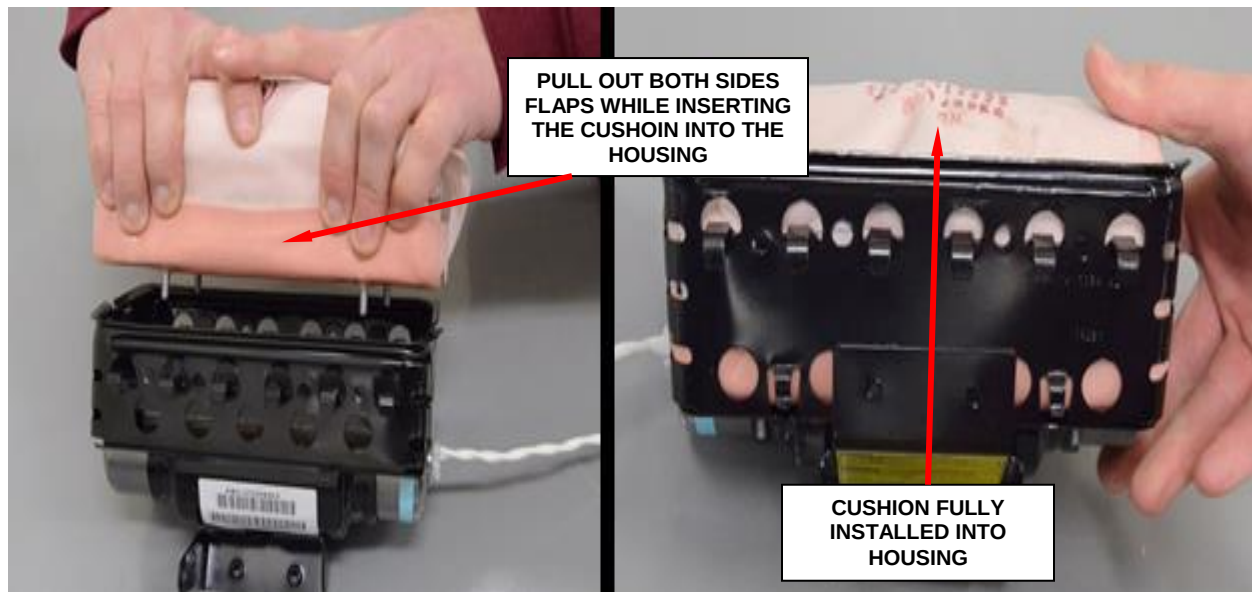

Figure 127 - Side Flaps Must Be Held Out
- l. Insert the cushion, pulling out both side flaps (Figure 127).